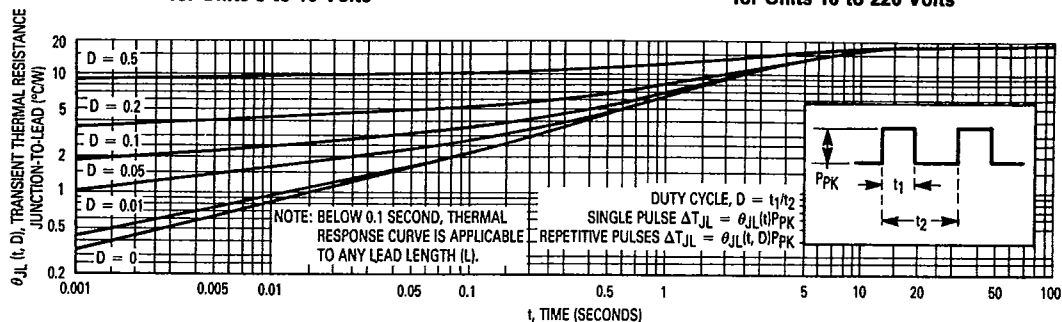
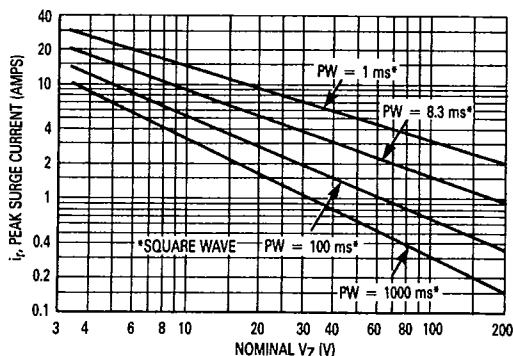

Figure 4. Typical Thermal Response
Figure 6. Maximum Non-Repetitive Surge Current versus Nominal Zener Voltage
- (1) TOLERANCE AND VOLTAGE DESIGNATION — The JEDEC type numbers shown indicate a tolerance of $\pm 10\%$ with guaranteed limits on only V_Z , I_R , and V_F as shown in the electrical characteristics table. Units with guaranteed limits on all seven parameters are indicated by suffix "A" for $\pm 10\%$ tolerance and suffix "B" for $\pm 5\%$, C for $\pm 2\%$ and D for $\pm 1\%$.
- (2) ZENER VOLTAGE (V_Z) AND IMPEDANCE (Z_{ZT} & Z_{ZK}) — Test conditions for Zener voltage and impedance are as follows: I_Z is applied 40 ± 10 ms prior to reading. Mounting contacts are located $3/8"$ to $1/2"$ from the inside edge of mounting clips to the body of the diode. ($T_A = 25^\circ\text{C} \pm 2^\circ\text{C}$).
- (3) SURGE CURRENT (I_F) — Surge current is specified as the maximum allowable peak, non-recurrent square-wave current with a pulse width, PW, of 8.3 ms. The data given in Figure 6 may be used to find the maximum surge current for a square wave of any pulse width between 1 ms and 1000 ms by plotting the
Data of Figure 4 should not be used to compute surge capability. Surge limitations are given in Figure 6. They are lower than would be expected by considering only junction temperature, as current crowding effects cause
temperatures to be extremely high in small spots resulting in device degradation should the limits of Figure 6 be exceeded.